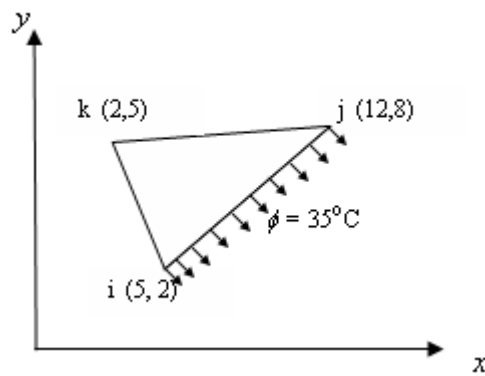

Figure 8:
8. Calculate the conductance matrix $[K^{(e)}]$ and load vector $\{F^{(e)}\}$ for the triangle element shown in figure 8. The thermal conductivities are $k_x = k_y = 4 \text{ W/cm-}^\circ\text{C}$ and $h = 0.3 \text{ W/cm}^2 \text{ }^\circ\text{C}$. Thickness of the element is 1cm. All coordinates are given in cms. Convection occurs on the side joining nodes i and j. [16]